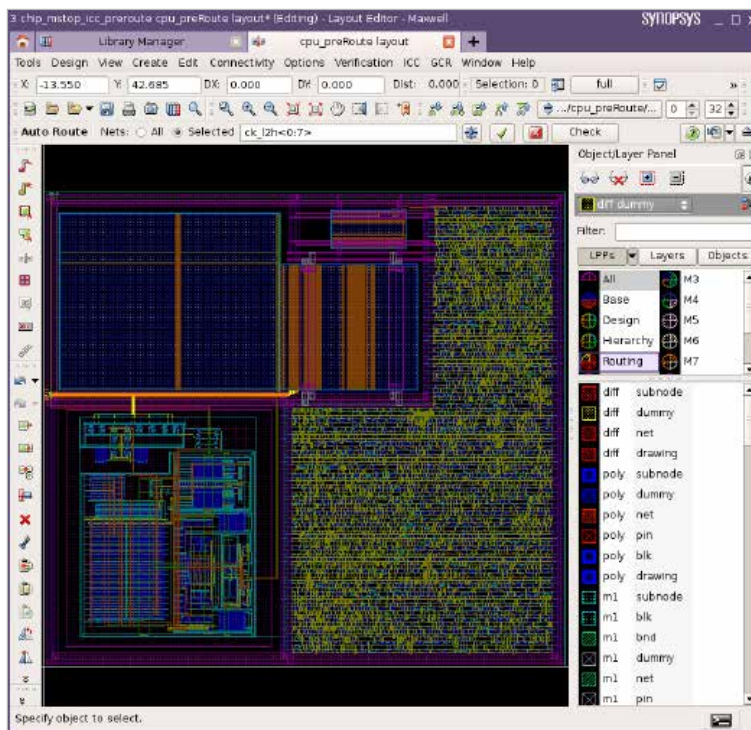

Figure 5: Full custom edits on an IC Compiler design
**Co-Design Assistants** combine IC Compiler™ and Custom Compiler into a unified solution for custom and digital implementation. Users can freely move back and forth between Custom Compiler and IC Compiler, using the commands of each to successively refine their designs. With the Co-Design Assistants, IC Compiler users can perform full-custom edits to their digital designs at any stage of implementation, as shown in Figure 5. Likewise, Custom Compiler users can use IC Compiler to implement digital blocks in their custom designs. The lossless, multi-roundtrip capability of the Co-Design Assistants ensures that all changes are synchronized across both the digital and custom databases.